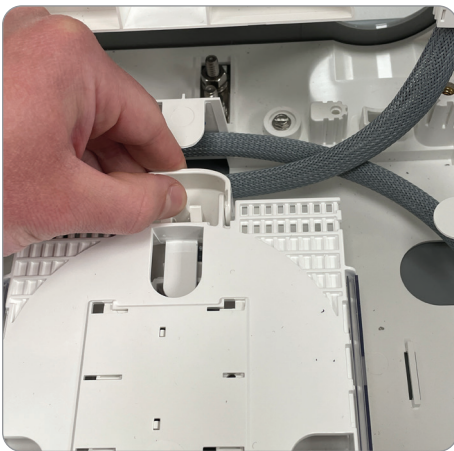

Figure 34
3. If the enclosure was ordered with additional splice trays, release them from their locked position by depressing the tab on the splice tray yoke and lift the trays up 90 degrees (**Figure 34**).